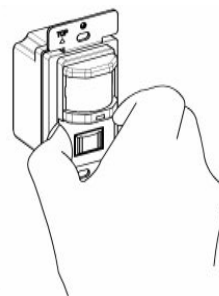

Figure 3
5. Remove the small cover plate. (Illustrated as Figure 3. )
6. Locate the adjustment knobs on the control panel to perform test and adjustment. (Illustrated as Figure 3. )